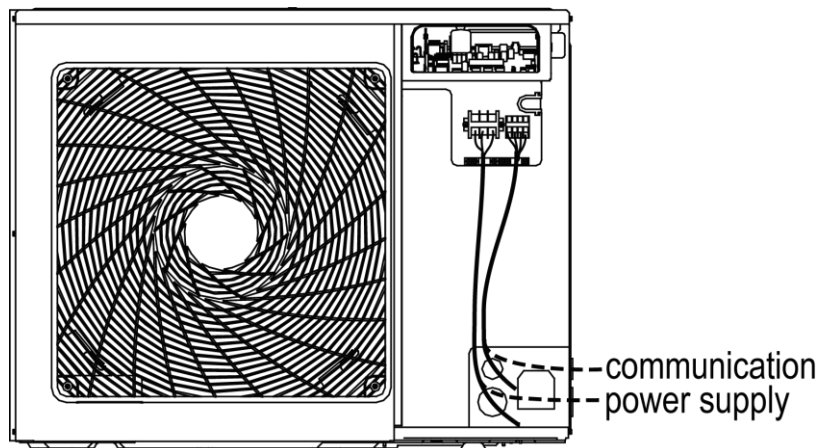

Fig. 27 Engineering Wiring View of AOU-80VRDC1B
- (1) Please refer Fig. 27 and 28 for engineering wiring. If there is the hole for cable tie in wiring route, please fix the wire with cable tie. Connect the power cord and communication cable to the corresponding terminal board and grounding screw according to the wiring diagram.
- (2) Please be noted that engineering wiring cannot touch the pipe and appliance.
- (3) This figure is only applicable for engineering wiring reference of power supply and communication cable. If there are differences between the figure structure and actual unit, please refer to the actual unit.
- (4) For engineering wiring, please refer to the wiring diagram provided with the unit.